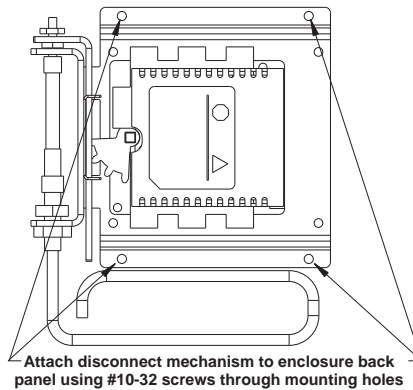

Figure 1 Attaching Disconnect to Enclosure Back Panel
1. Install disconnect switch with four #10-32 screws (see **Figure 1**).